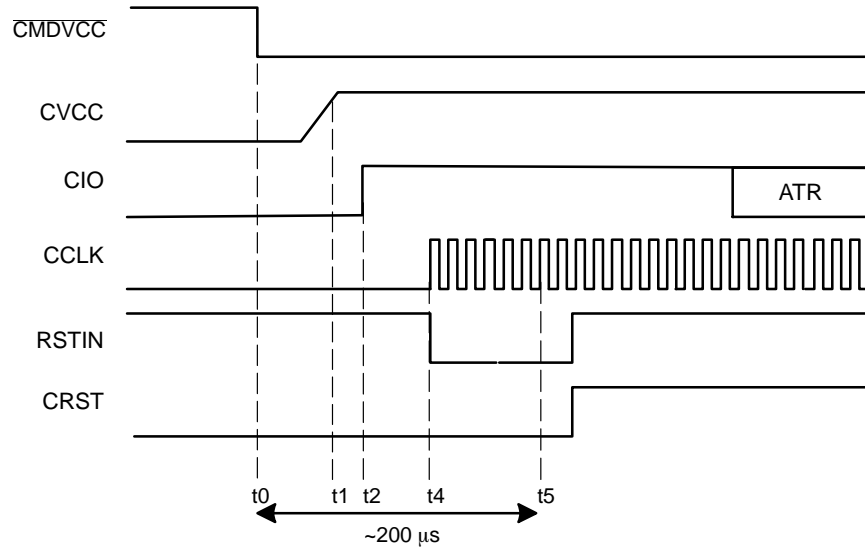

Figure 5. Activation Sequence – RSTIN Mode (RSTIN Starting High)
The clock can also be applied to the card using a **RSTIN mode** allowing controlling the clock starting by setting RSTIN Low (Figure 5). Before running the activation sequence, that is before setting Low  $\overline{CMDVCC}$  RSTIN is set High. The following sequence is applied:
- Between  $t_2$  (Figure 5) and  $t_5 = 200\ \mu\text{s}$ , RSTIN is reset to LOW and CCLK will start precisely at this moment allowing a precise count of clock cycles before toggling CRST Low to High for ATR (Answer To Reset) request.